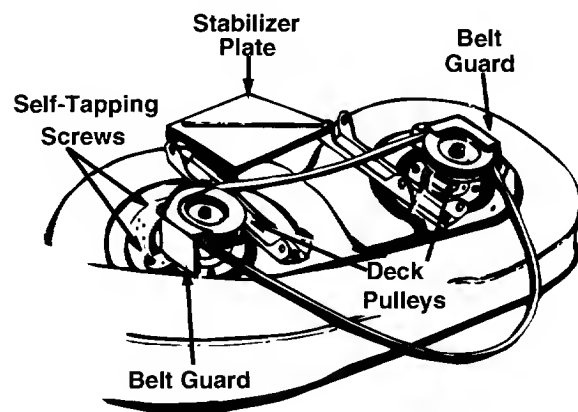

Figure 26
11. Remove the belt guards at each deck pulley by removing the self-tapping screws. See Figure 26.